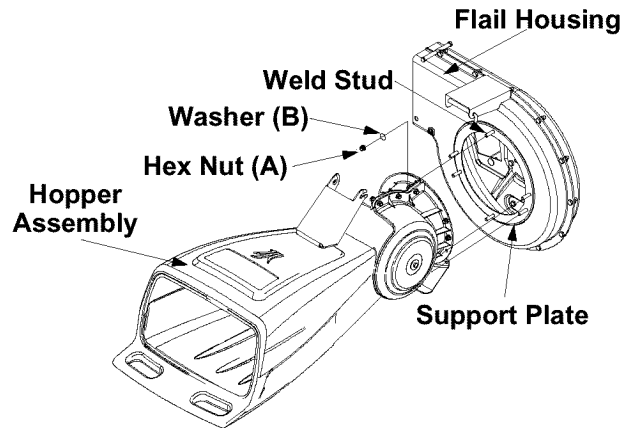

Figure 4
2. Remove six hex nuts (A) and six washers (B) from the weld studs on the flail housing. Leave the support plate in place on the weld studs. See Figure 4.